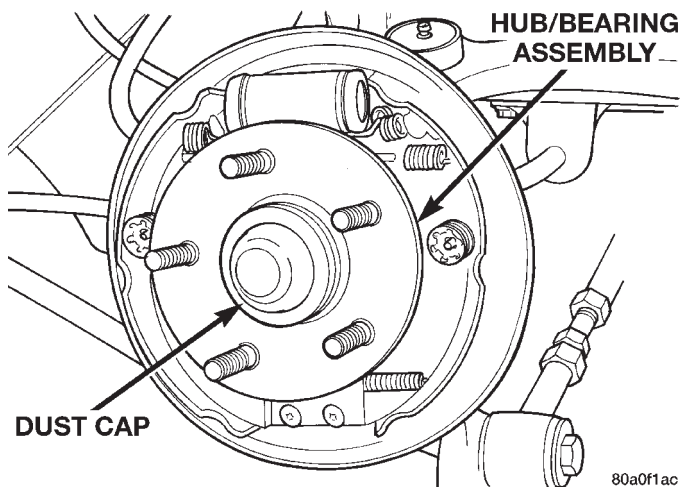

**Fig. 141 Rear Hub/Bearing Dust Cap**
(22) Remove the dust cap (Fig. 141) from the rear hub/bearing assembly.
(7) Install hub/bearing assembly dust cap, (Fig. 141) using a soft faced hammer.